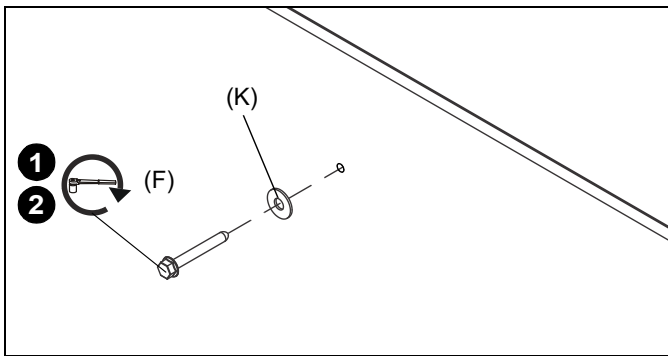

Figure 27
1. Use one 5/16" x 2-1/2" hex flange head lag bolt (F) and one 5/16" washer (K) through product and into pilot hole. (See Figure 27)